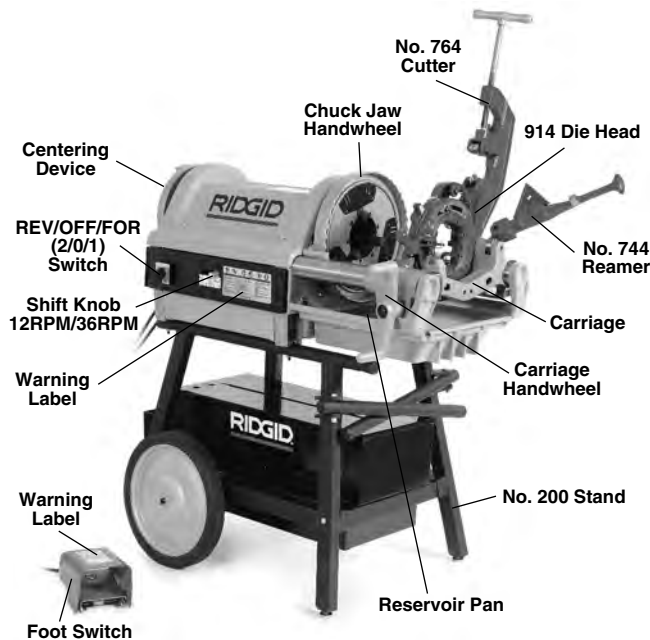

Figure 1 – 1224 Threading Machine
- Presence and readability of warning labels (Figure 1).